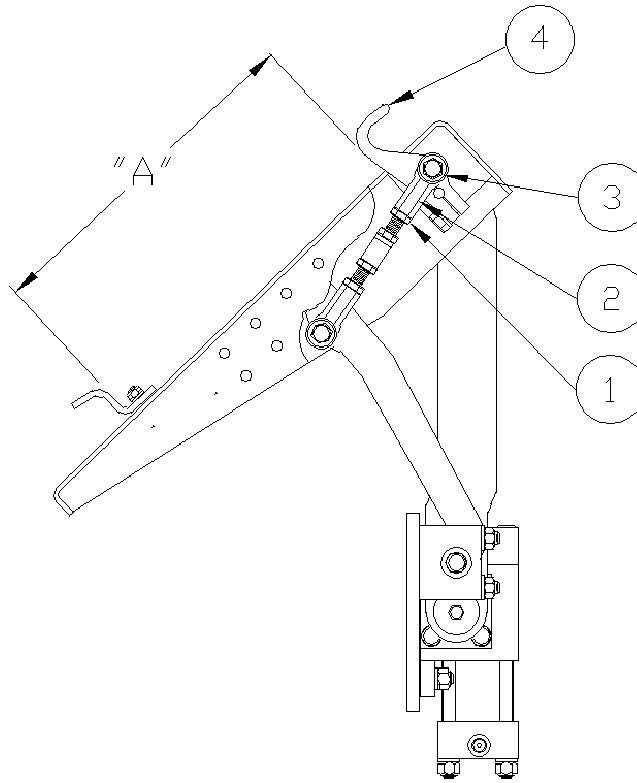

figure O-3
Check the distance (**A**) (figure O-3) between the saddle and lower hooks when the lifter faceplate is in the **FULL DUMP** position. Maintain this dimension at approximately **14 1/4"** for the proper "locking" of the cart to the lifter. To adjust the setting, loosen the jam nuts (1) on the spherical rod ends (2). Remove the bolts (3) that hold the rod ends to the lower hooks (4). Screw the rod ends in or out as required to obtain the correct dimension at (**A**). Replace the bolts (3) and tighten the jam nuts (1).